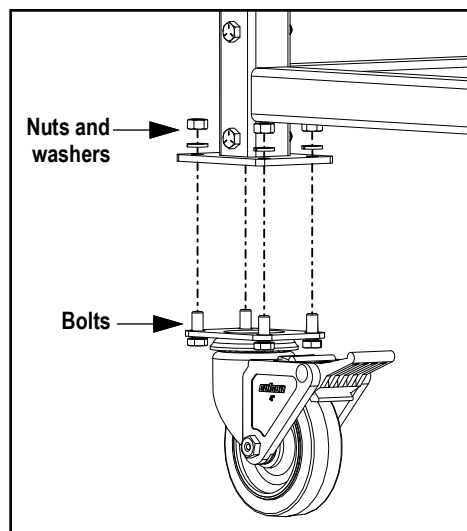

Figure 2-1. Caster Installation
2. Insert four 5/16 in hex bolts through the caster plate into the cart leg mount plate on the cart frame (see Figure 2-1).